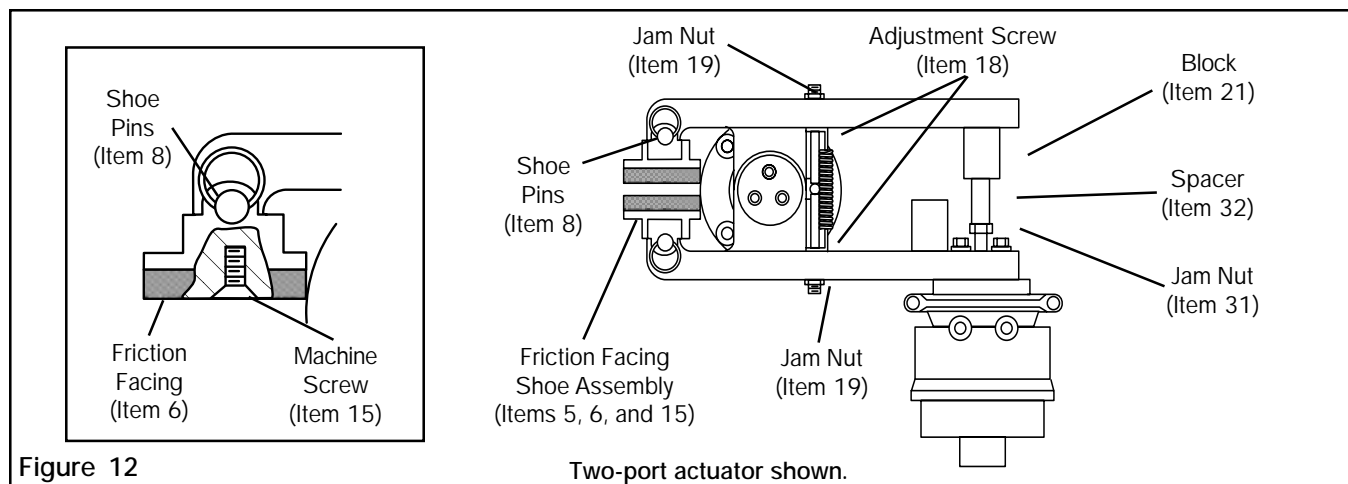

Figure 12
1. Manually release the spring actuators (See Figure 12).
4. Remove the Shoe Pins (Item 8) (See Figure 12).
5. Remove the Friction Facing Shoe Assembly (Items 5, 6, and 15) (See Figure 12).
7. Using new Machine Screws (Item 15), install new Friction Facings (Item 6) (See Figure 12).